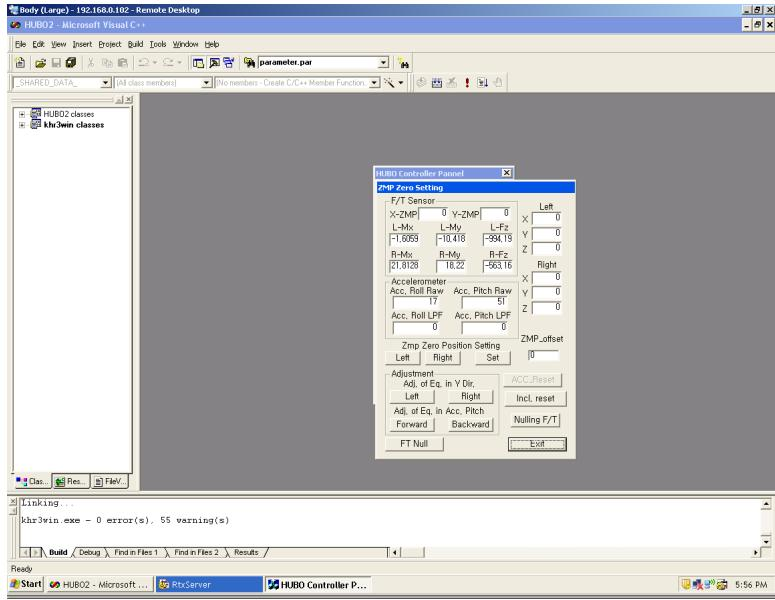

Figure 19: ZMP Zero Set Dialog (Before Pressing *FT Null*)
At this point Hubo will **move** in to her zero default crouched position. Remember Hubo is still hanging at this point. The *ZMP Zero Set* dialog will now open, Figure 19.
5.32 Click *FT Null* in the ZMP Zero Set Dialog, Figure 19